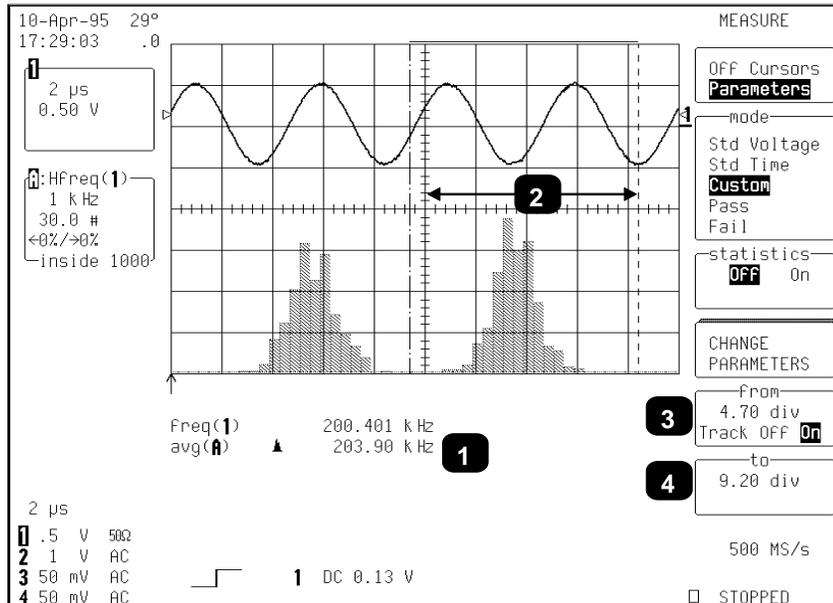

Figure 14-9.
You can use cursors (see Chapter 4) to select a section of a histogram on which a parameter is to be calculated. Figure 14-9 below shows the average, “avg(A)” (Item 1) of the distribution between the parameter cursors for a histogram of the frequency (“freq”) parameter of a waveform. The parameter cursors (2) are set “from” 4.70 divisions (3) “to” 9.20 divisions (4) of the display.